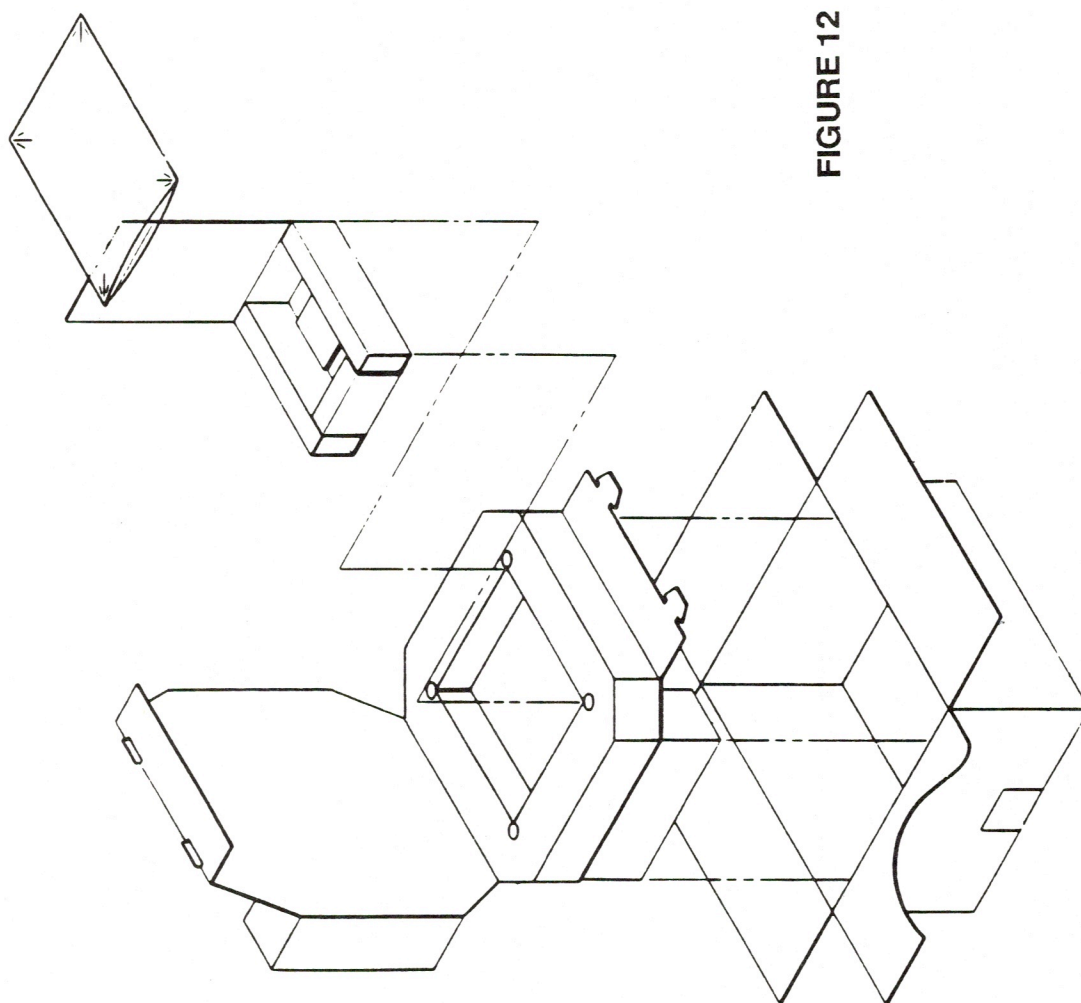

FIGURE 12
□ **MACINTOSH SE – SERVICE PACKAGING, 3.5 HDA (Figure 12)**